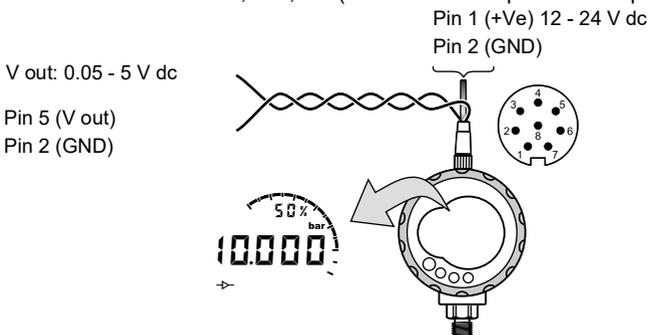

Figure 3-3: Example Configuration - V out
- Accessory E - refer to Figure 3-3 on page 15 and Table 2-2 on page 9.